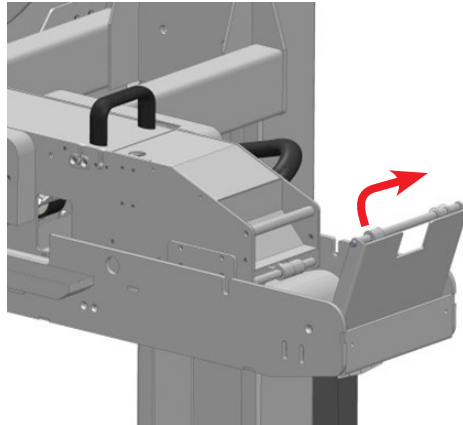

Figure 52: Pull Hold Down Plate
5. Pull hold-down plate upwards to allow for removal of tape head, (refer to Figure 52).